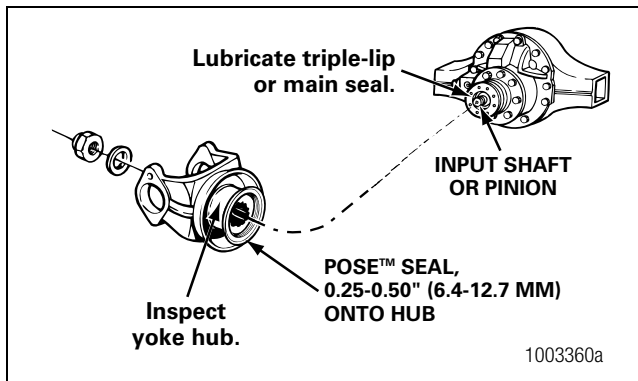

Figure 5.25
- B. Partially install the POSE™ seal onto the yoke 0.25-0.50-inch (6.4-12.7 mm). Figure 5.25.